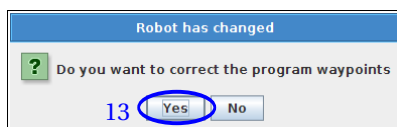

Figure 2.15: To correct the program press "yes"
- (13) The robot controller realizes that the program comes from a different robot and asks whether you want to correct the program. To correct the program press "yes" as seen in figure 2.15.